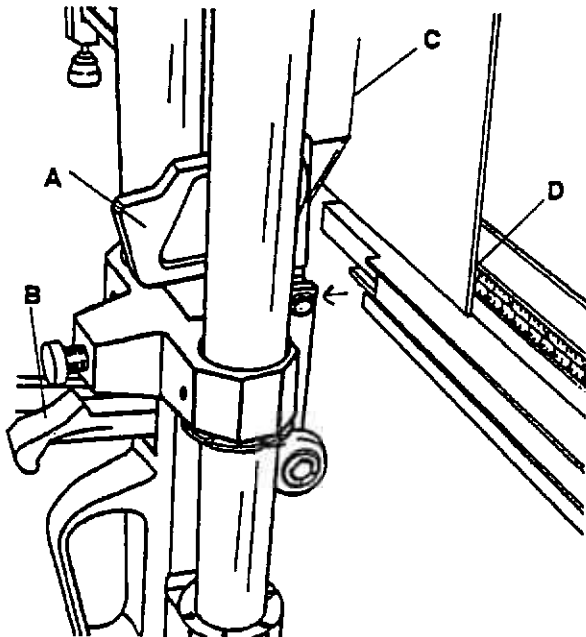
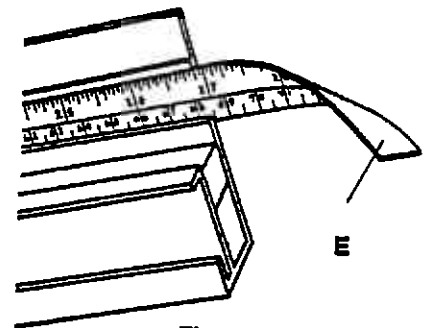

Figure 11
Figure 12
Refer to Figures 11 and 12. The **RIGHT SUPPORT SCALE** can now be aligned and set in its proper position. Mark a short line on a mat/mount board exactly 6 inches from the right edge. Insert the mat/mounting board **PILLAR POST (A)** in the cutting **HEAD** and lock it with the **SPEED SCREW**.
Depress the **SHORT THUMB LEVER (B)** and raise the **CUTTING HEAD**. Place the mat/mount board on the **SQUARING EDGE BAR** and slide it in position so the cutting blade rests exactly on the line (**C**), in Figure 11.
The **RIGHT SUPPORT SCALE** has a strip of double sided tape (**E**) on the back at the right end as seen in Figure 12. Slide the **SCALE** out to the right and remove the protective paper from the tape. Now, slide the **SCALE** back to the left until the 6 inch index on the **SCALE** lines up with the right edge of the mat/mount board as shown at (**D**) in Figure 11. Press on the right end of the **SCALE** and the tape will adhere it in place.